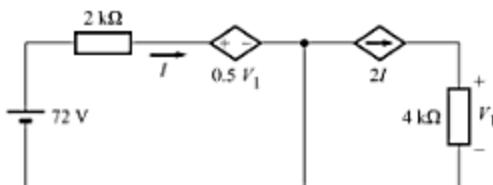

Fig. A-92
- A-56. Calculate voltage  $V_1$  in the circuit of Fig. A-92. [Ans.  $96\text{ V}$ ]